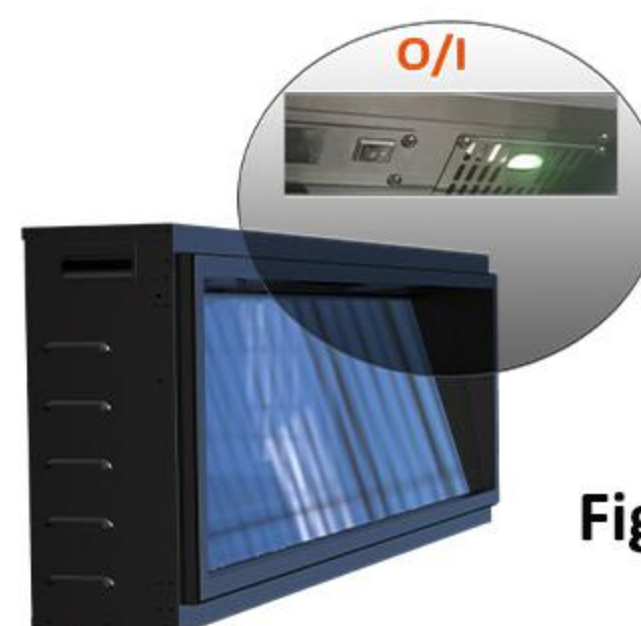

Figure 1
**!** NOTE: To disconnect from mains - set the mains switch to 'O'. The mains (power) switch is located at the top right hand side of the appliance above the manual controls - see 'O/I' Figure 1. Mains switch shall remain readily operable.
For rough in framing, the opening should follow the recommended dimensions located in Figure 1.